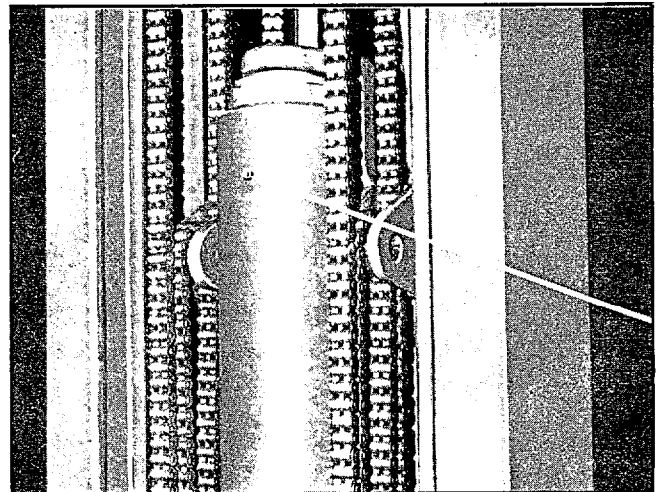

Figure 1-8 Hoist Cylinder Bleeder Screw
6. Loosen the bleeder screw located near the top of the mast hoist cylinder. See figure 1-8.